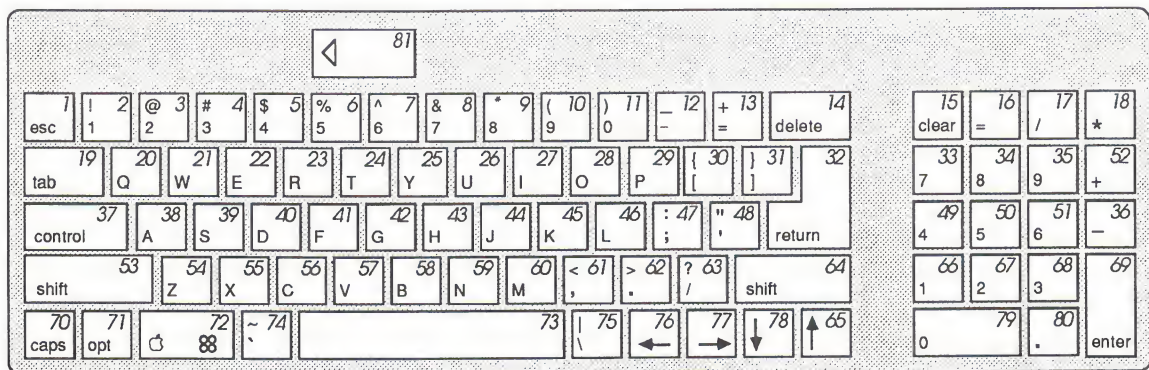

FIGURE 6
3. Turn the keyboard over. Using the keyswitch map (Figure 6), locate the number of the keyswitch to be replaced. There are two connections for each keyswitch.